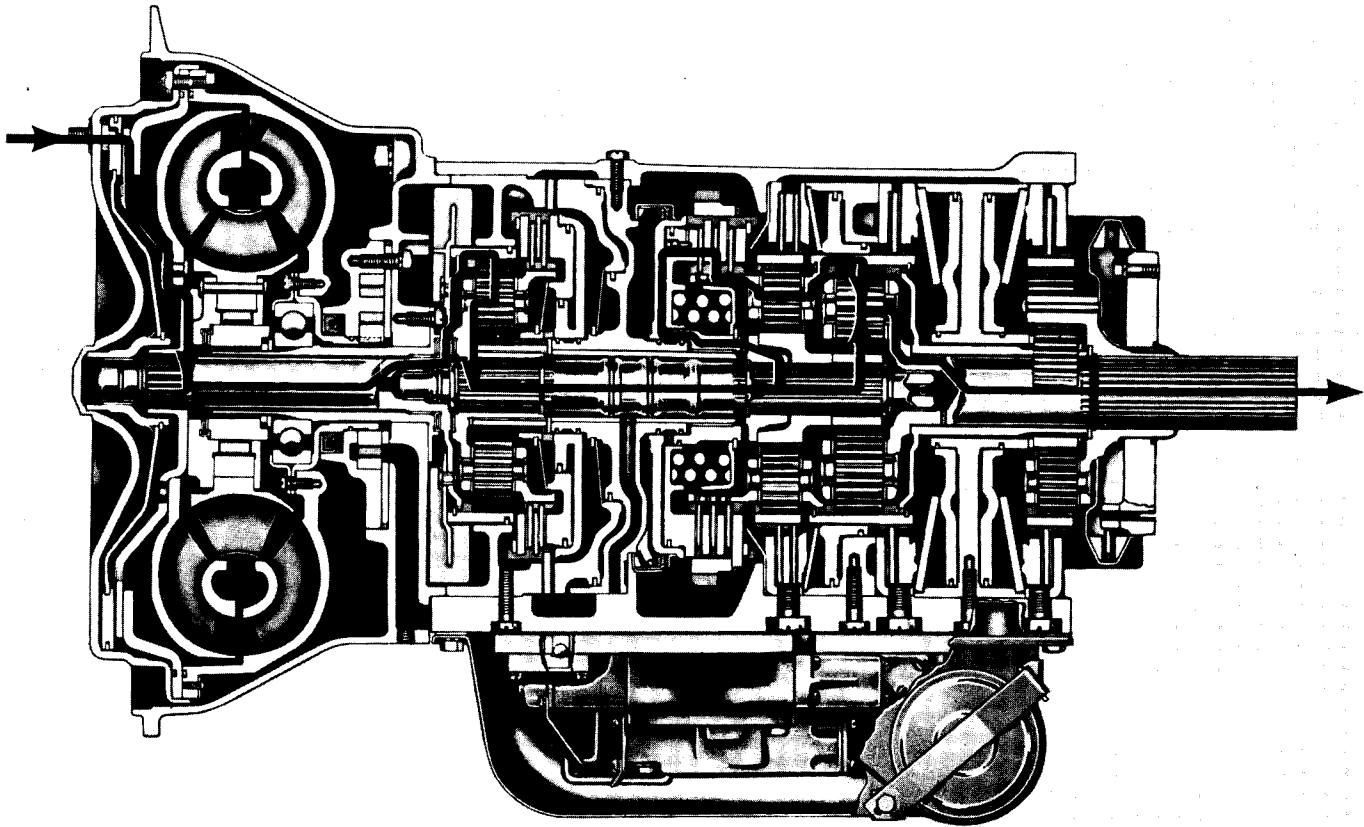

Fig. III-19 Fifth-gear power flow, lockup
d. Fifth Gear (fig. III-19). In fifth gear, the splitter system is in low ratio (1.39:1). The splitter output shaft is rotating the high-range clutch housing clockwise. The high-range clutch is applied and drives the intermediate-range carrier. The intermediate-range carrier drives the low-range ring gear.